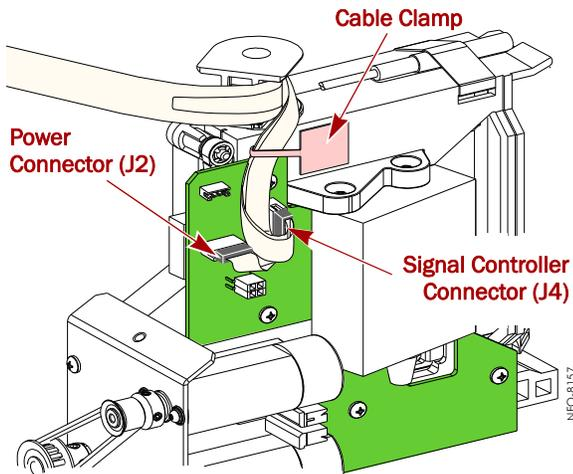

Figure 4. Shuttle PWA and Cables (Front View)
1. On the shuttle, locate the **Shuttle PWA** (Figure 4) and release the **shuttle cables**: